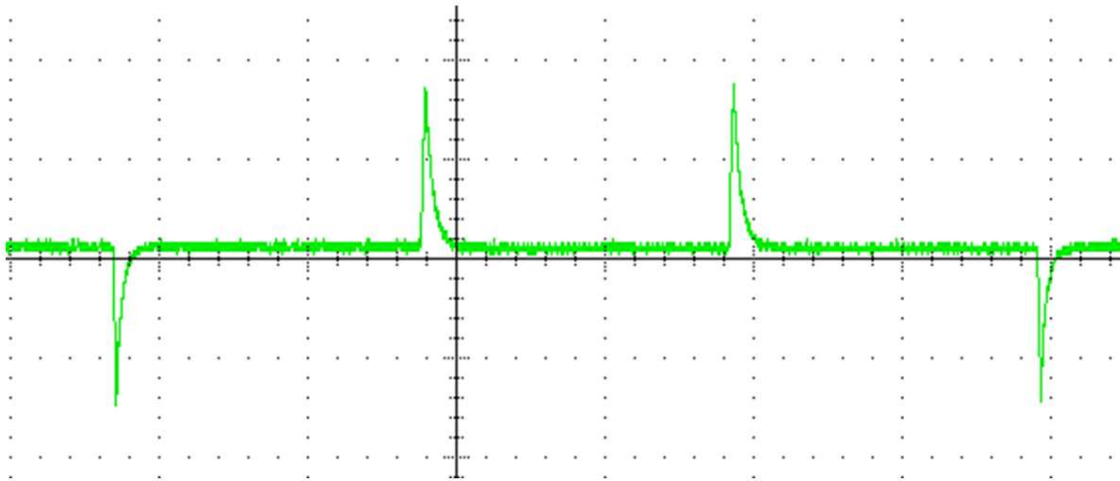

Figure 27. Motor Phase Current During IPD Process
3. Check current waveform and make sure it does not clip. As seen in Figure 27, current does not clip and it looks like pulses.